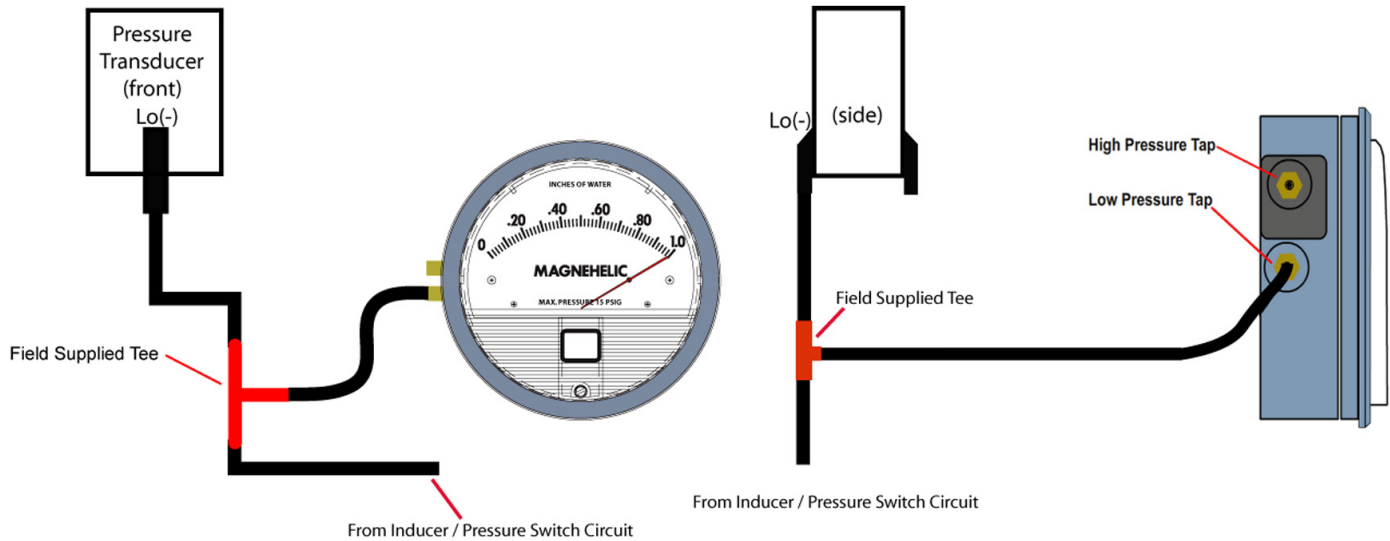

Figure 6-8 - Pressure Transducer Verification
4. Tee a Magnehelic or incline manometer as shown in Figure 6-8.